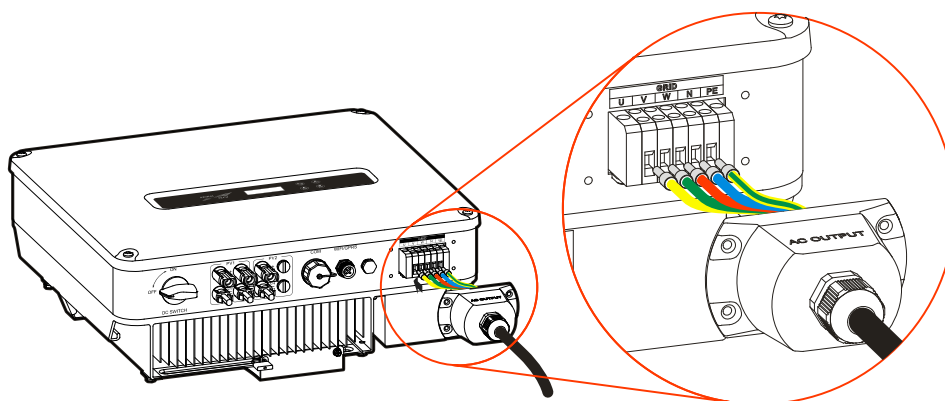

Figure3-23 Connect the AC output cable
Step 2 Lead the AC output cable go through the AC output waterproof cover, crimp them to the tube terminals, and then fasten them to corresponding wiring terminal by screwdriver, as shown in Figure3-23.